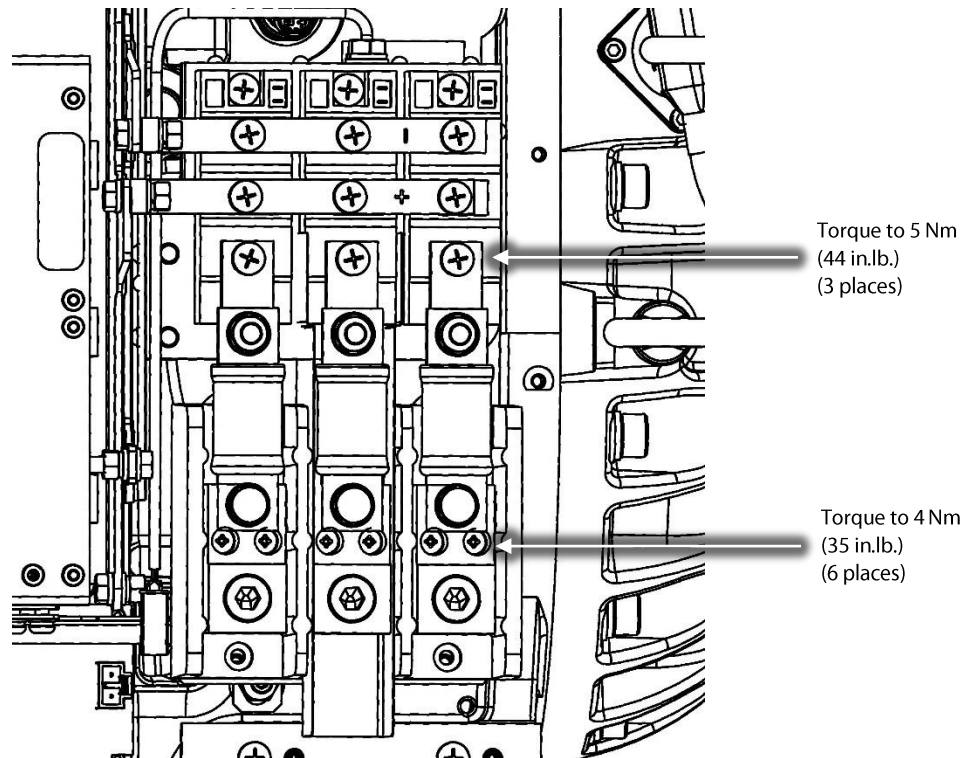
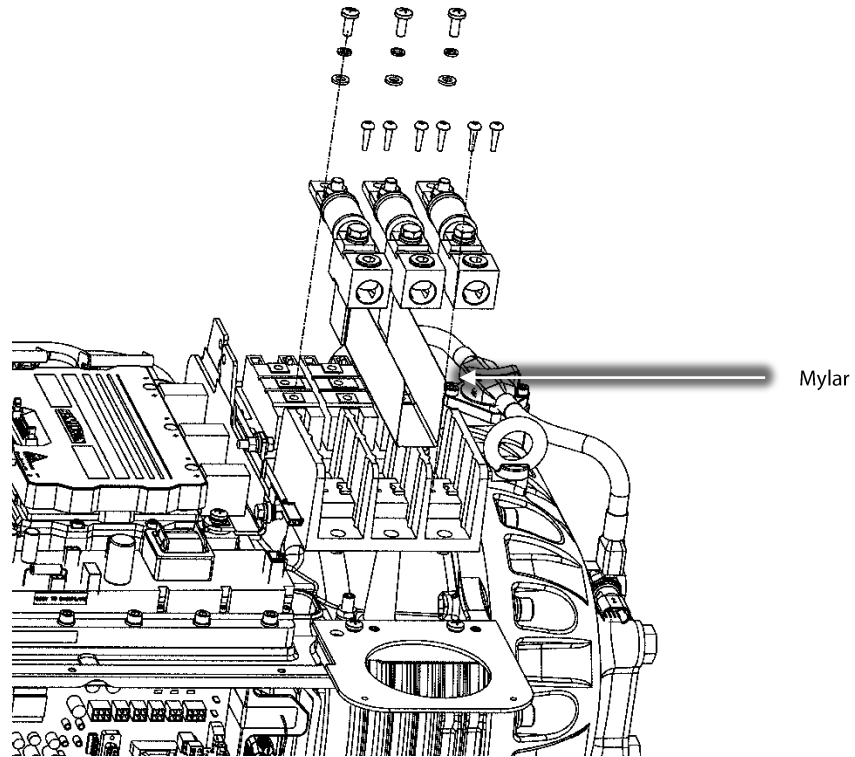

Figure 8 – Fuse Block Assemblies
Figure 9 – Mylar Removal
16. Remove the three (3) fasteners that connect the Fast Acting Fuses to the SCR's and, noting their orientation, the 3-Phase input wires to the Soft Start AC/DC cable harness. Refer to Figure 8 (Fuse Block Assemblies).
17. Remove the two (2) fasteners from each of the three (3) fuse block assemblies and set aside the fuse assemblies. Refer to Figure 8 (Fuse Block Assemblies) and Figure 9 (Mylar Removal).
18. Remove the insulating Mylar from the middle Terminal Block and set aside. Refer to Figure 9 (Mylar Removal).